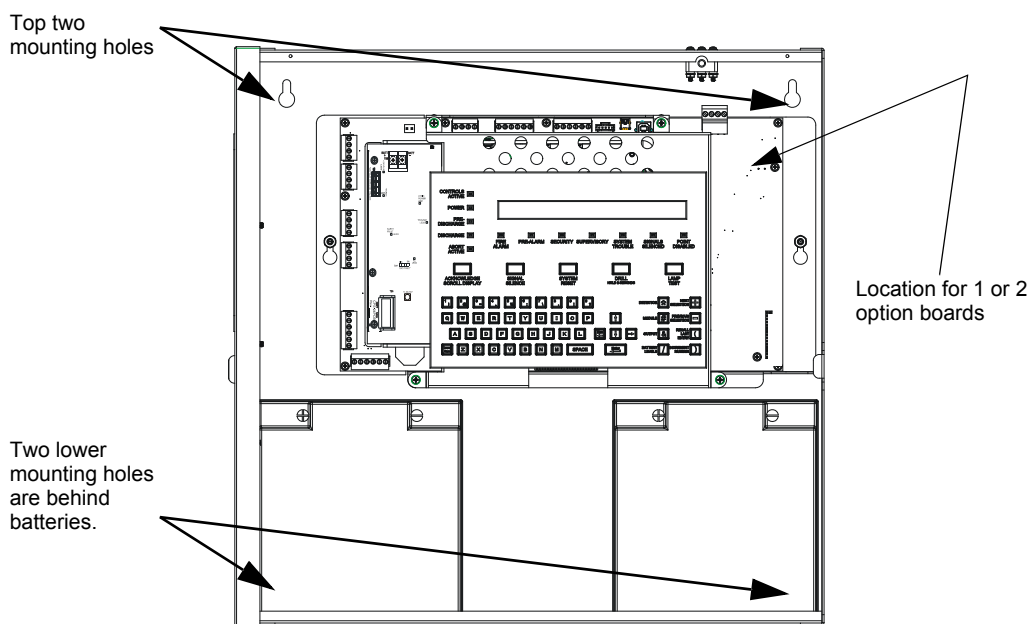

Figure 3.1 NFS-320/E/C in Cabinet
- Use the four holes in the back surface of the backbox to provide secure mounting. (See Figure 3.1 on page 19.)